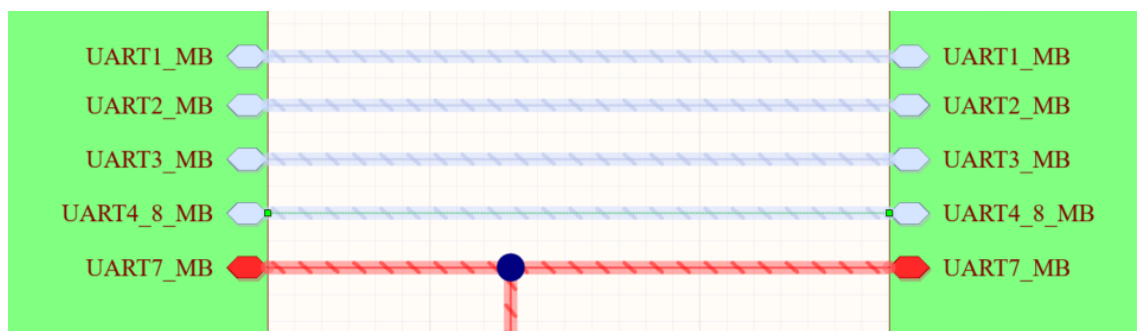

Figure 30. Signal Harnesses for the UART[number]\_MB
65. Create the connection between the two Sheet Symbols by placing Signal Harnesses to their respective Sheet Entries. Your final result should look similar to Figure 30.